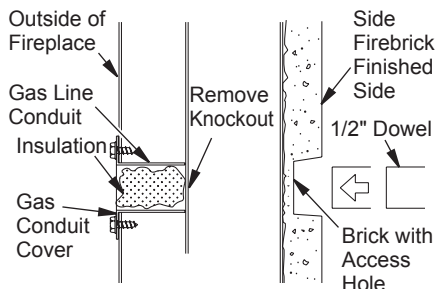

Figure 18 - Gas Line Access
1. Remove knockout indentation on refractory or firebrick wall located above refractory hearth floor. Knockout indentation must be firmly tapped with any solid object such as a 1/2" dowel until it is released. Remove fragmented portions of refractory (see Figure 18).